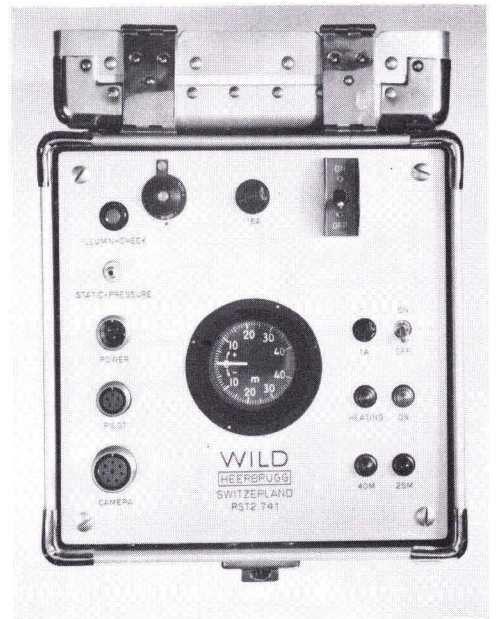

FIG. 10. The control box for the Statoscope operation.
1. One is on the panel exposed when the lid of the Statoscope is opened, as shown in Figure 10.